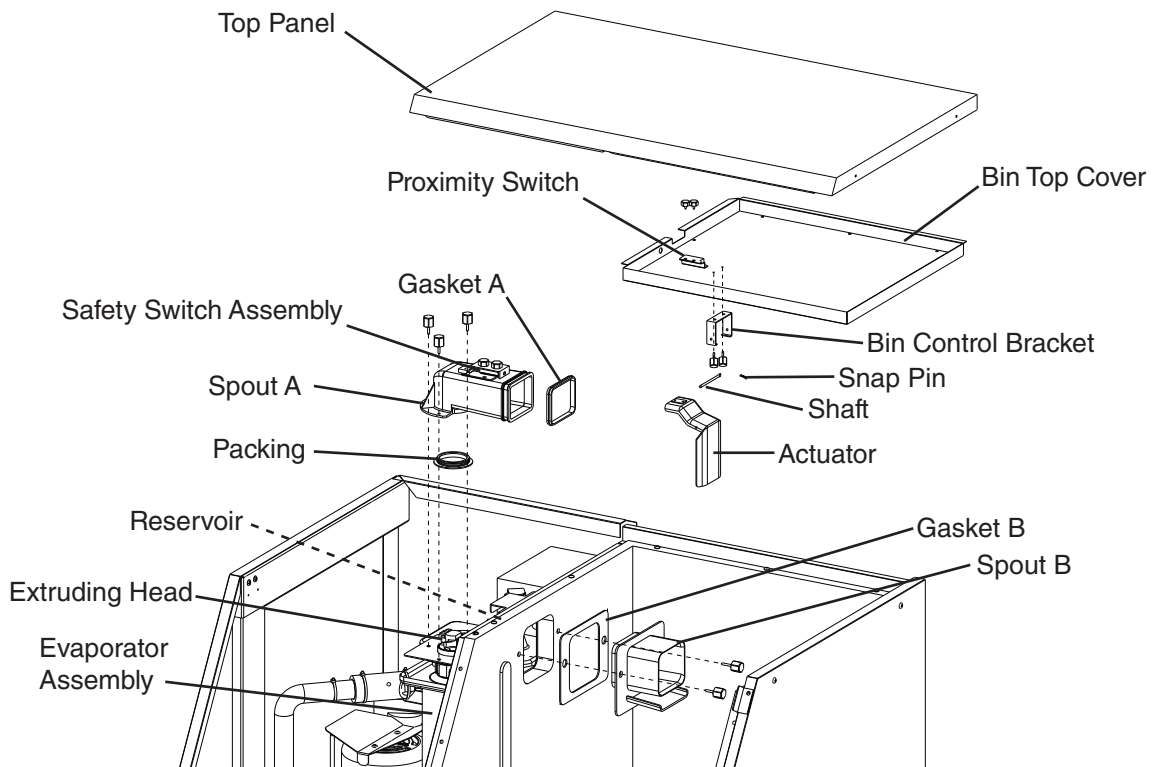

Fig. 4
- 6) In the storage bin, remove spout B and gasket B, then remove spout A and gasket A. See Fig. 4.